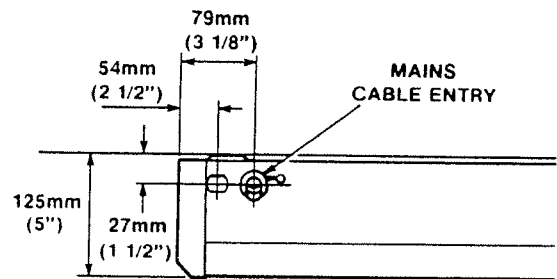

Figure 7
- Power supply cable entry to unit is at upper left hand side of unit. (See fig. 7).